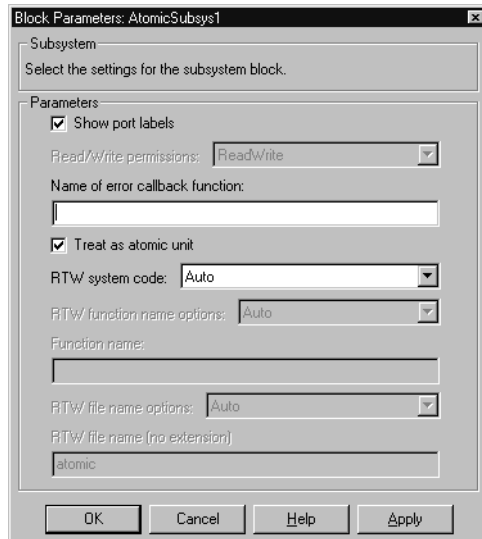

Figure 4-1: Auto Code Generation Option for a Nonvirtual Subsystem
- 1 Select the subsystem block. Then select **Subsystem parameters** from the Simulink **Edit** menu. The **Block Parameters** dialog opens, as shown in Figure 4-1.
- 2 If the subsystem is virtual, select **Treat as atomic unit** as shown in Figure 4-1. This makes the subsystem nonvirtual, and the **RTW system code** option becomes enabled.
- 3 Select **Auto** from the **RTW system code** pop-up menu as shown in Figure 4-1.